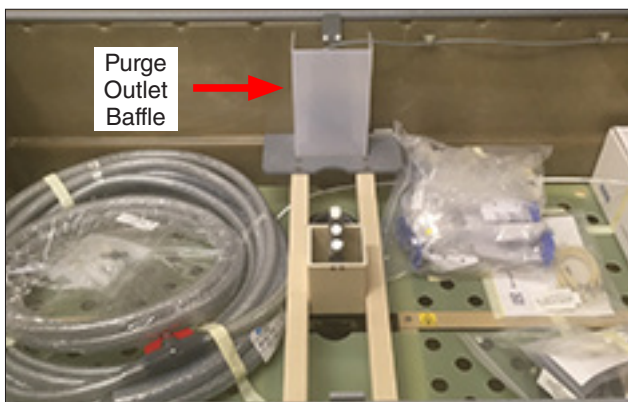

Figure 6.9c: Sensor packed in purge outlet baffle.
- The chamber temperature sensor is shipped in the purge outlet baffle in the test chamber (Figure 6.9c).